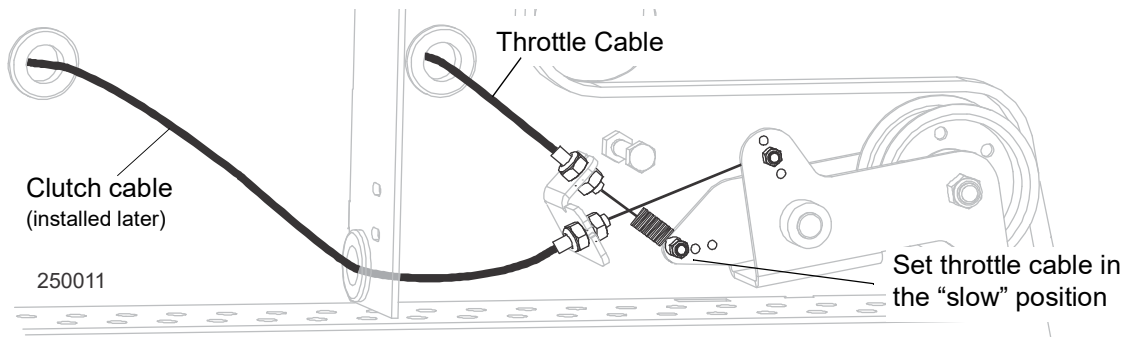

FIG. 1-23
- Attach the throttle cable to the clutch. See Fig. 1-23.